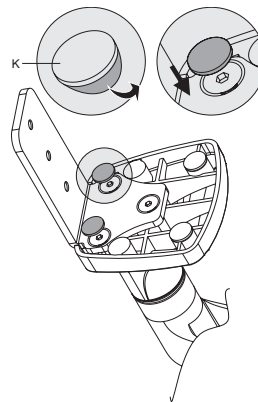
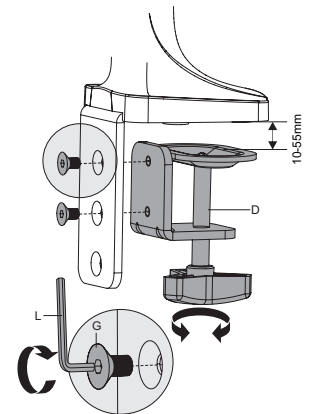

Figure 2
Figure 3A
2. Install Protective Pad (K) to cover the bolt, see Figure 2.
3. Install the C-Clamp (D) to the C-Clamp Brace (C) according to the thickness of your desktop.
- a) Desktops of 10mm-55mm thickness: Select the two upper mounting holes and secure them using Bolt (G) with Allen Key (L) turning clockwise until tight, see Figure 3A